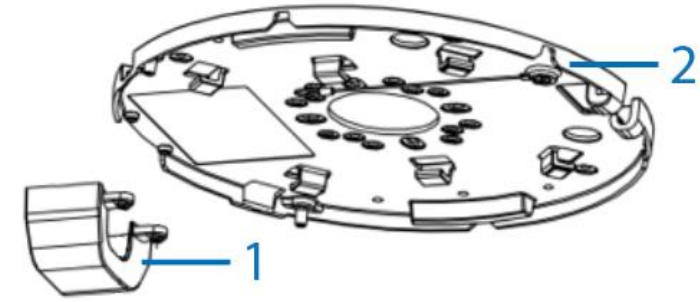

Figure 3
8. Hold the conduit adaptor (1) (Figure 3) up to the mounting plate (2) (Figure 3) and align the holes on the conduit adaptor with the holes on the mounting plate.